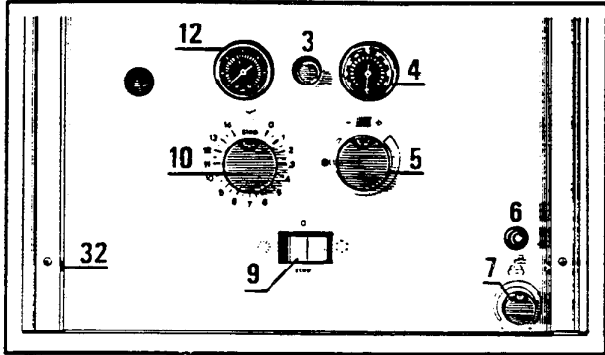

Fig. 18
- With the left hand push in the pilot button (3) (fig. 18). With the other hand push the ignitor button (6) (fig. 18). When the pilot light is established hold the pilot button pushed in for 30 seconds.
- Switch the main electric switch (9) (fig. 18) to start the pump. The firing of the main burner is initiated by the starting of the pump.
Your boiler is designed to give hot water at a temperature of 60° C. with the temperature selector on +, (7) (fig. 18), when a tap is turned on. The maximum flow rate will be : 6 l/min (1.32 gpm) for the 2.20 RSc unit and 8 l/min (1.75 gpm) for the 2.24 RSc unit. It is possible to obtain higher water volumes at lower temperature - to fill a bath for example, turn the temperature selector to the sign - and open the bath tap fully.
Set the boiler thermostat 5 (fig. 18) on the boiler as a function of the external temperature and the required internal temperature.
- In cold weather the boiler thermostat (5) (fig. 18) can be left in the position +.
- Put the control switch (9) (fig. 18) to the summer position « ☉ ». The boiler will now operate only on hot water demand.
- If the pressure on the pressure gauge (12) (fig. 18), falls below 1 bar when cold re-pressurise the installation as follows.
- When pressure is about 1.5 bar (12) (fig. 18) close the fill valve.
To remove the cover (fig. 18)